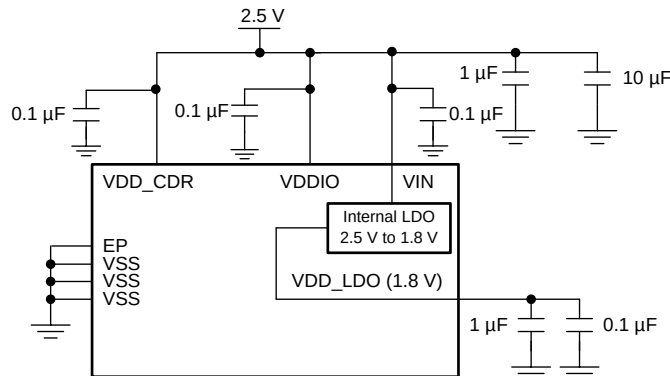
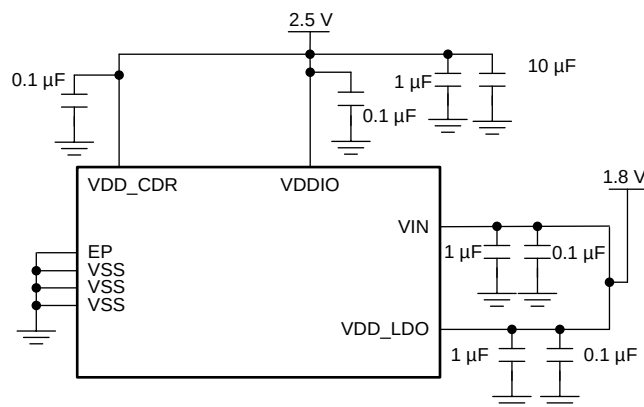

图 27. Typical Connection for Single 2.5 V Supply
图 28. Typical Connection for Dual 2.5 V and 1.8 V Supply
The LMH1226 is pin compatible with LMH1219 (12G UHD cable equalizer with integrated reclocker). Both LMH1219 and LMH1226 devices support Single Supply Mode and Dual Supply Mode as shown in 图 27 and 图 28, respectively.
- **Single Supply Mode (2.5 V):** This mode offers ease of use, with the internal circuitry receiving power from the on-chip 1.8 V regulator. In this mode, 2.5 V is applied to VDD_CDR, VIN, and VDDIO. See 图 27 for more details.
- **Dual Supply Mode (2.5 V and 1.8 V):** This mode provides lower power consumption. In this mode, 1.8 V is connected to both VIN and VDD_LDO. VDD_CDR, and VDDIO are powered from a 2.5 V supply. See 图 28 for more details.